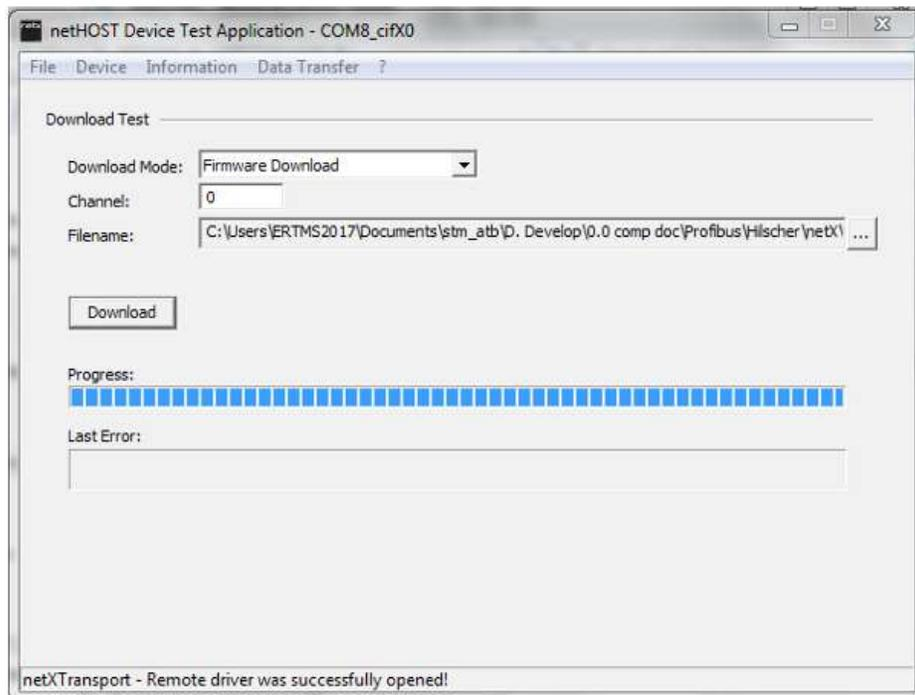

Figure 46: Progress bar [netHOST\_download\_done]
21. The Progress bar on the pop-up “netHOST Device Test Application – COM8\_cifX fills. Once the Progress bar is filled to completion, the software is successfully loaded on the netX processor. Close the program “netHOST” on the laptop by clicking “X” in the top right corner of the screen (Figure 46, STMA-69284);